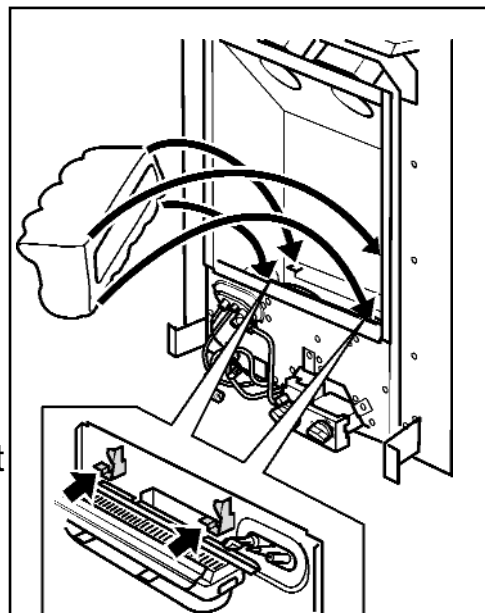

Figure 18. Ceramic coal base location
**1.** Fit the ceramic coal into the fire above the burner. The front of the ceramic coal should locate on the horizontal faces but behind the vertical faces of the two location brackets positioned at the front of the burner module. See figure 18.